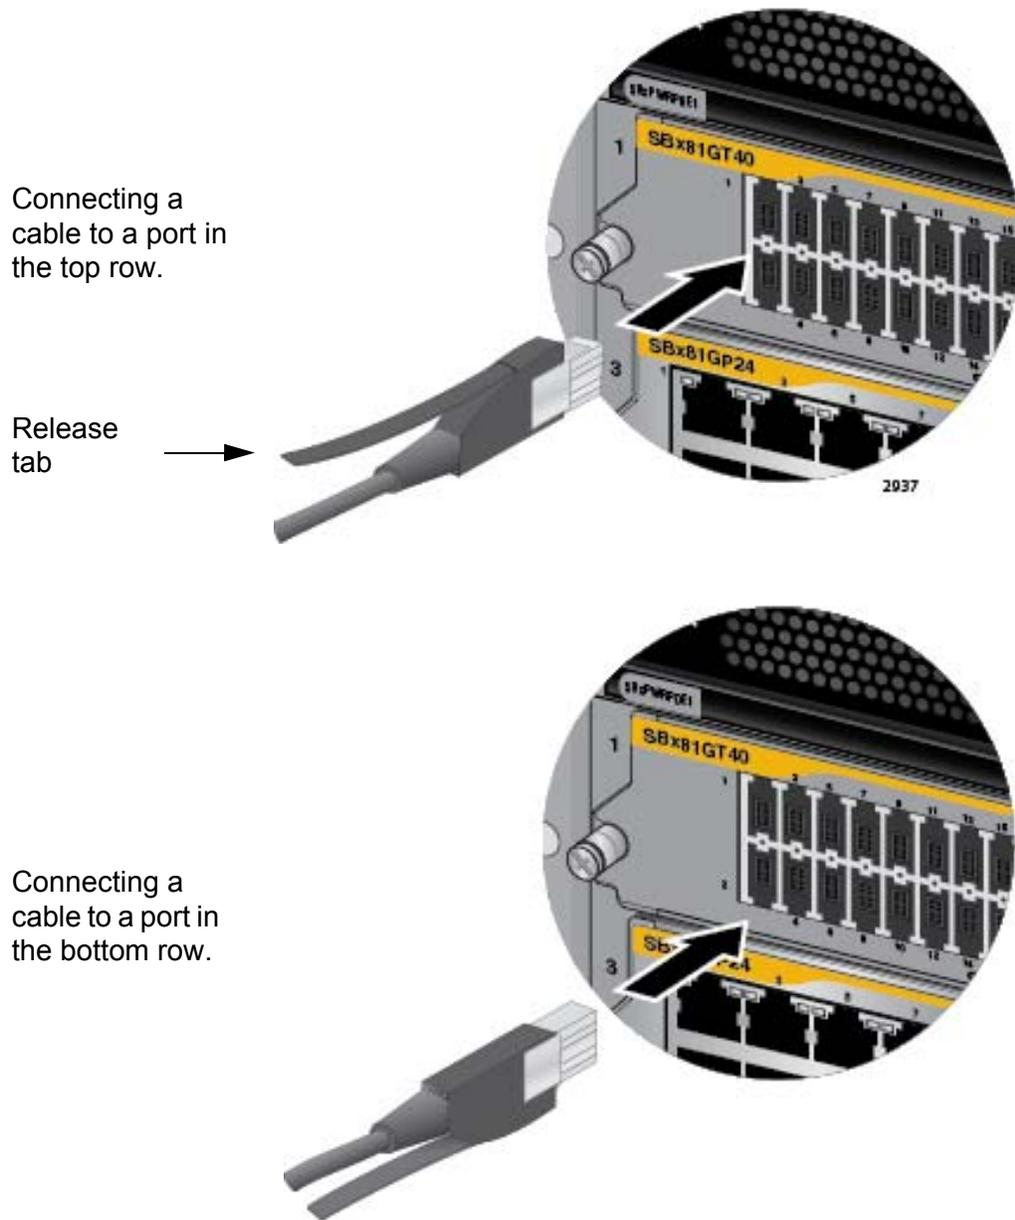

Figure 81. Connecting Cables to Ports on the AT-SBx81GT40 Line Card
- ❑ To connect a cable to a port in the top role on the line card, orient the connector with the release tab on top. To connect a cable to a port in the bottom role, orient the connector with the release tab on the bottom. Refer to Figure 81 on page 128.